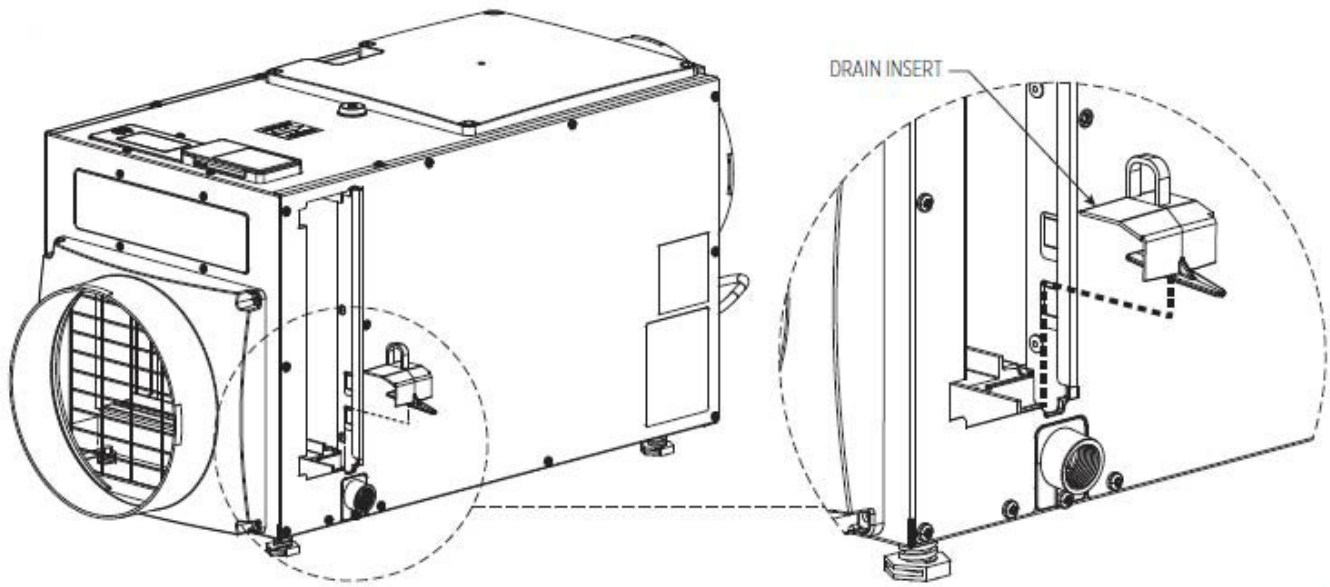

Fig. 10 – Drain Insert
8. If the filter does not slide back in, make sure the drain insert has been properly installed. (Fig. 10).